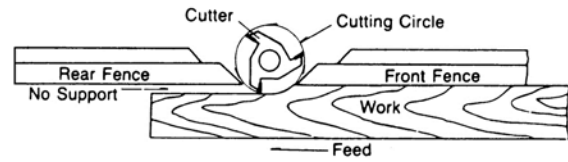

Figure 9
2. When the shaping operation removes the entire edge of the work (i.e. jointing or making a full bead), the shaped edge will not be supported by the rear fence when both fences are in line as shown in Figure 9. In this case, the work piece should be advanced to the position shown in Figure 9 and stopped.